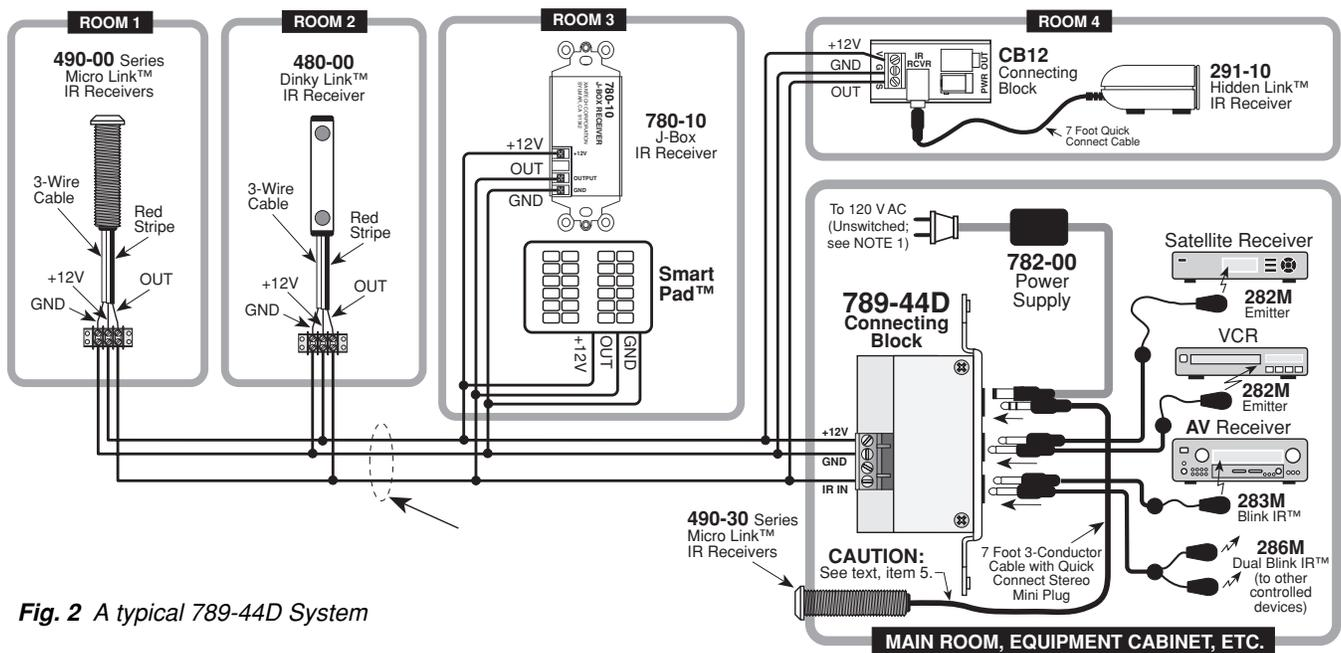
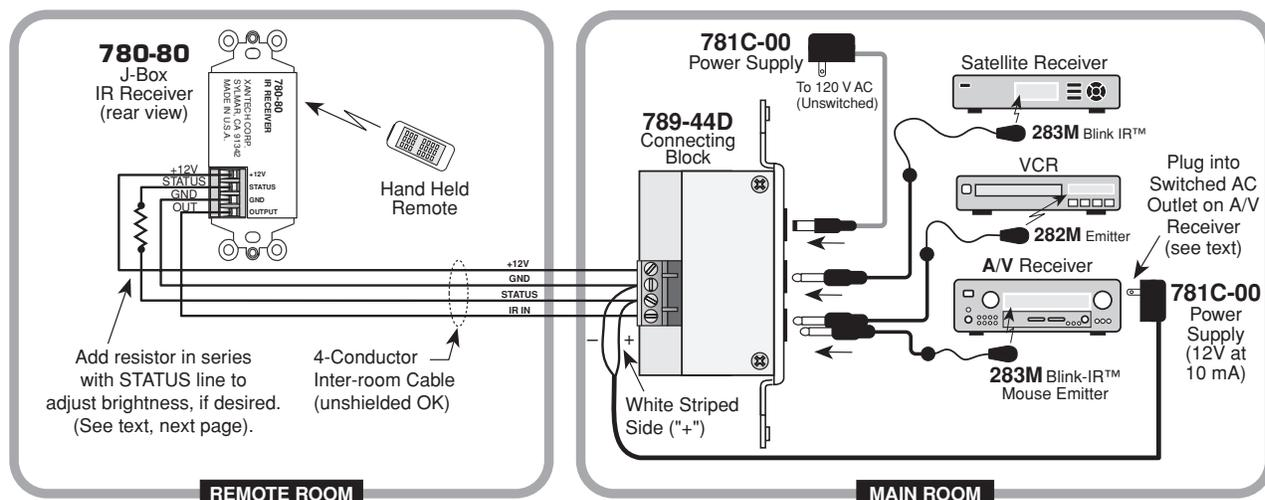

Fig. 2 A typical 789-44D System
Fig. 3 Using the STATUS terminal in a typical system
The Model 789-44D is an in-wall version of the 789-44 Connecting Block and is trimmed with a standard decorator-style cover plate (not included). It permits connection of Xantech IR Receivers and Keypads to four single or four dual emitters, with a power supply, in infrared repeater systems. It can also provide emitter expansion for various Xantech devices, such as the 590, 710, 796-20, etc. The STATUS terminal provides a convenient tie point for voltage to drive the STATUS indicator on certain Xantech products, such as the 780-80 IR Receiver (refer to **Fig. 3**).
Fig. 2, next page, illustrates a typical installation using the 789-44D in an IR repeater system. A variety of Xantech IR Receivers and a keypad are shown. When configuring a system, please keep the following items in mind:
4. For clarity, connections in **Fig. 2** are shown going to a 3-conductor bus in a "daisy chain" fashion. In an actual installation, however, it is recommended that 4-conductor "home-runs" be pulled from each room to the 789-44D Connecting Block in the main room. The home-runs maintain higher power supply voltage to each IR receiver and keypad, and the extra 4th wire can be used for "STATUS" if desired (refer to **Fig. 3**).
Fig. 3 illustrates a single zone system where the Status LED on a Xantech 780-80 IR Receiver, in the remote room, shows the ON/OFF status of an A/V receiver.
4. You would then connect the 4-conductor inter-room cable between the 789-44D and the 780-80 as shown in Fig. 3.
5. If you wish to adjust the brightness of the Status LED, place a resistor in series with the STATUS lead as shown in Fig. 3. Use a value that achieves the desired brightness (usually 1k Ohm to 10k Ohm, 1/8 watt).